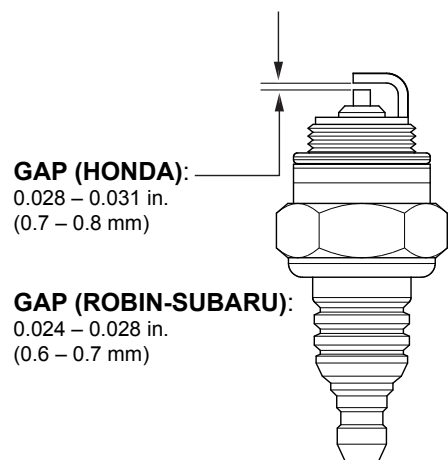

**Figure 56. Draining Engine Oil**
- Remove the drain bolt and sealing washer (Figure 56), and allow the oil to drain into a suitable container.